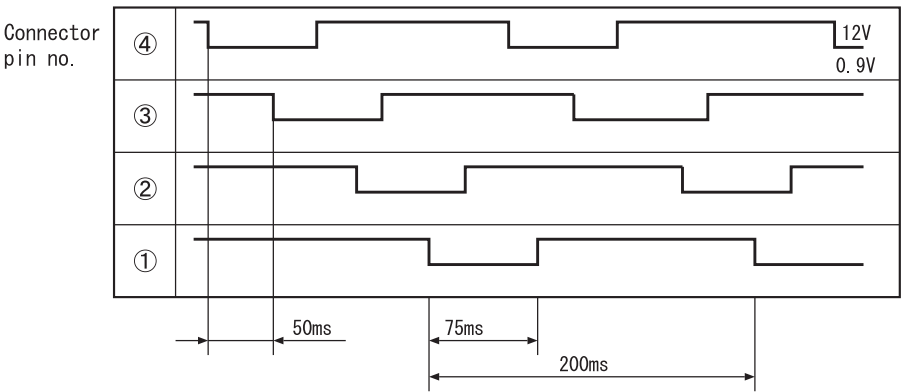

Fig. 6-2
- Relationship between power switching direction of phase and open/close direction is shown below. When power is supplied, voltages at pins④to①of CN15 are about 0.9V and 12V when no power is supplied. When power is reset, initial operation is performed for 10 or 20 seconds. During initial operation, measure all voltages at pin④to①of CN15 by using a multimeter. If there is any pin with voltage that has not changed from 0.9V or 12V, expansion valve or microcomputer is broken.
- Fig. 6-2 shows logic waveform when expansion valve is operating.